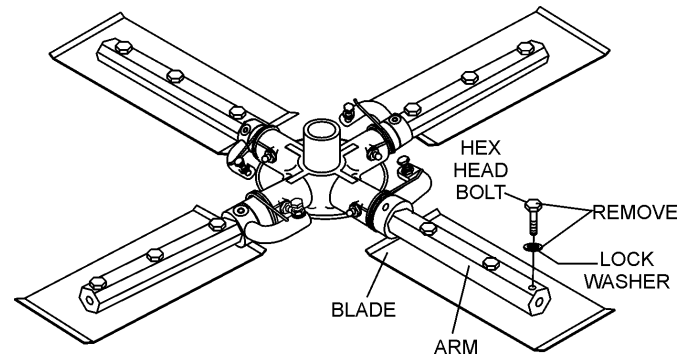

Figure 34. Trowel Blades
1. Remove the trowel blades from the trowel arm by removing the three hex head bolts (Figure 34) from the trowel arm. Set blades aside.